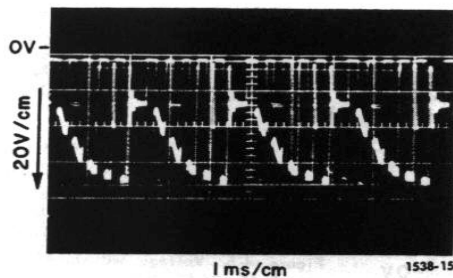

Figure 4-7. Voltage waveform at A.T.23 (24,000 RPM).
e. Compare the waveform at A.T.23 with that given in Figure 4-7. An incorrect waveform indicates a faulty 800-volt supply. Check CR504, Q510, CR503, and CR507. (NOTE: Transistor Q510 may break down due to high-voltage pulses.)